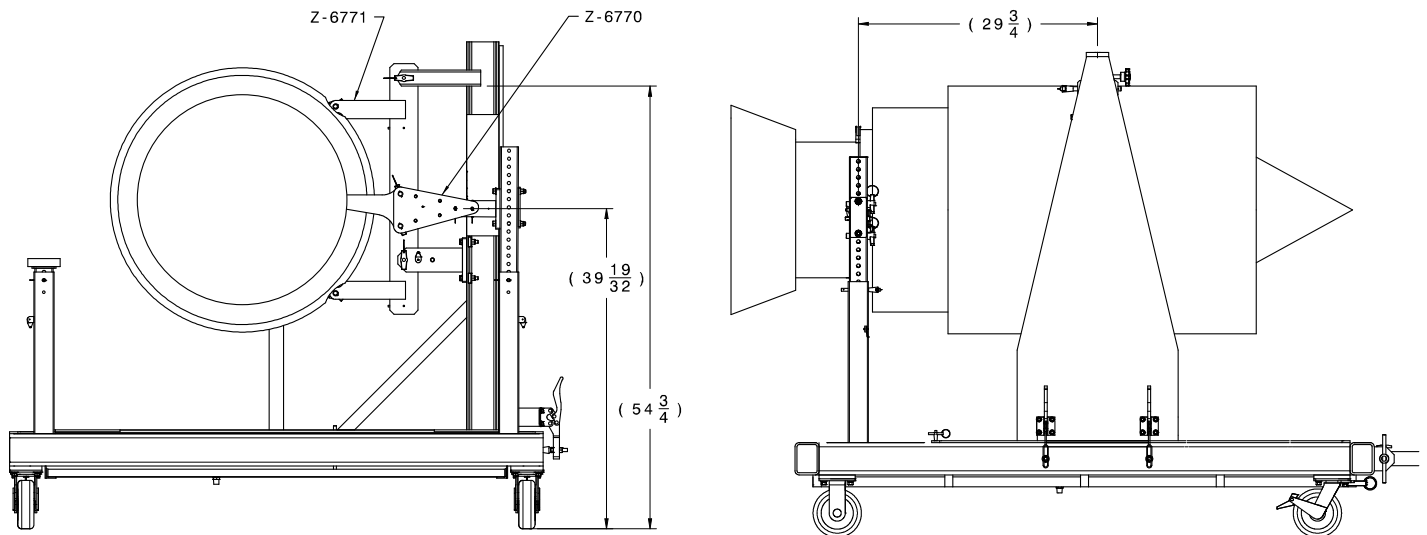

Figure 1
4. Position the front support beam approximately $29 \frac{3}{4}$ inches from the rear support post (See **Figure 1**).
5. Position height of front support approximately $54 \frac{3}{4}$ inches (See **Figure 1**).
6. Position the height of the rear support up approximately $39 \frac{19}{32}$ inches (See **Figure 1**).